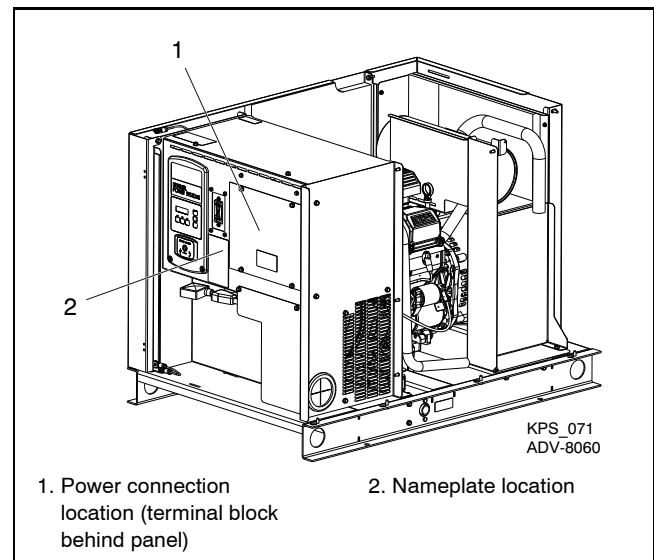

Figure 3-12 Power Connection and Nameplate Locations
3. Disconnect power to the generator set by opening the circuit breaker in the distribution panel (if equipped). Use a voltmeter to verify that power has been disconnected. See Figure 3-12 for the power connection location.
- Some of the required information can be found on the generator set nameplate. See Figure 3-12 for the nameplate location.